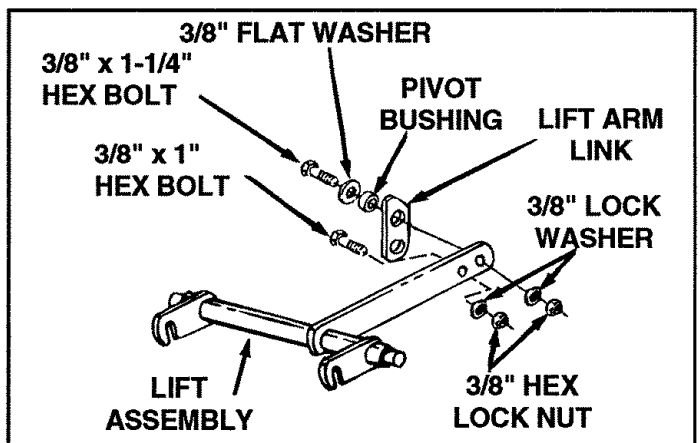

FIGURE 17
13. Pre-assemble lift arm link to inside of long arm on lift assembly. As shown in figure 17.
14. Assemble one 3/8" x 1-1/4" hex bolt through 3/8" flat washer, through pivot bushing, through large hole in lift arm link near angle end and through hole in long arm nearest the end. Secure with one 3/8" lock washer and one 3/8" hex lock nut. See figure 17. **NOTE: Lift arm link must pivot freely.**
15. Assemble one 3/8" x 1" hex bolt through second hole from end of long arm. Secure with one 3/8" lock washer and one 3/8" hex lock nut. This bolt is used as a limit stop for the lift arm link. See figure 17.
Lift arm link must be positioned as shown in figures 17 and 19.